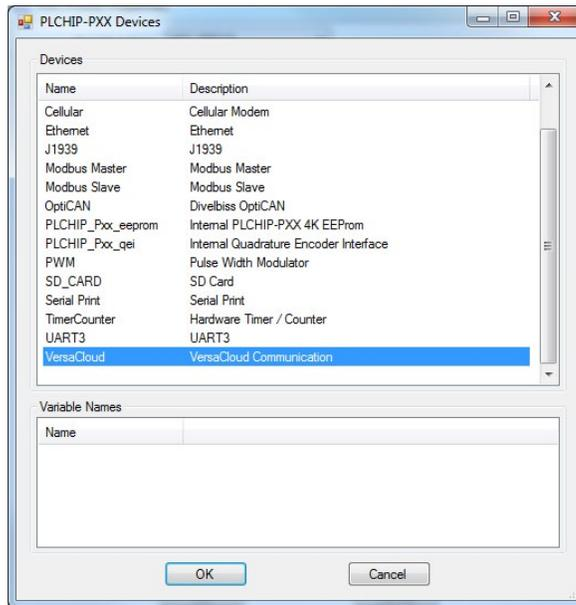

Figure 2-57 - PLCHIP-PXX Devices - VersaCloud
3. Click the **ADD DEVICE** button. The **PLCHIP-PXX Devices** window will open. Locate the **VersaCloud** in the Devices pane of this window. Click / select **VersaCloud** (highlight). Refer to Figure 2-57.